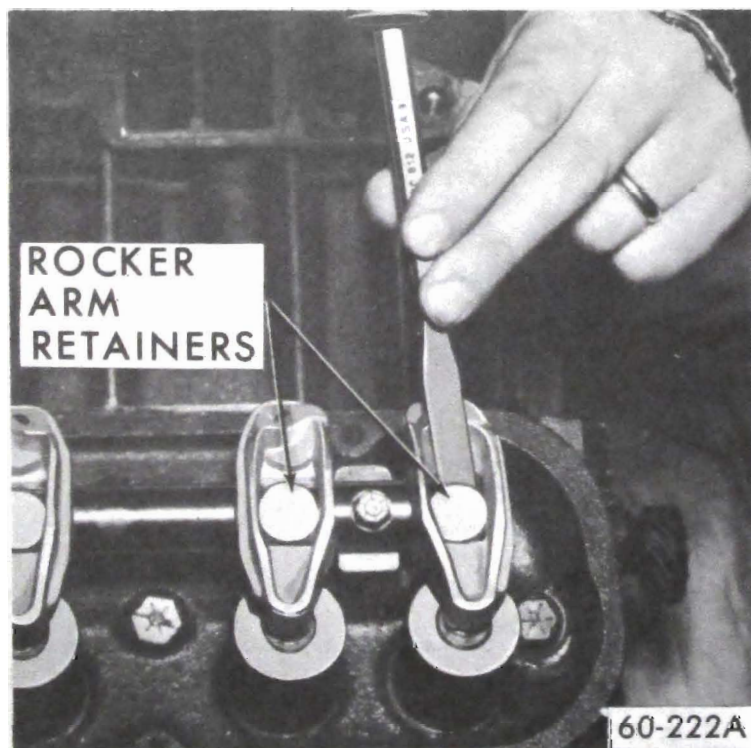

Figure 60-24 - Removing Nylon Retainer
3. Remove nylon arm retainers by breaking them below their head with a chisel. See Figure 60-24.